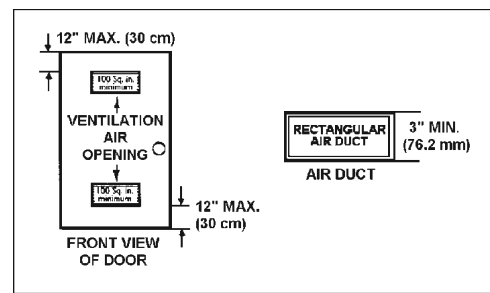
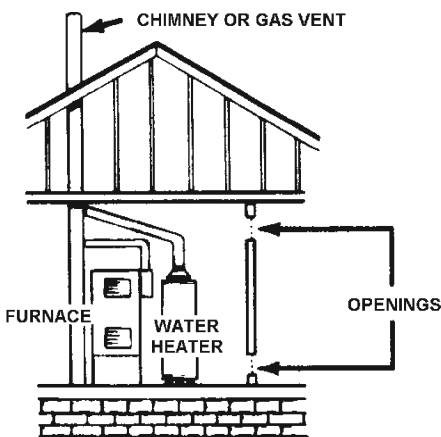

FIGURE 9.
FIGURE 10.
A gas water heater cannot operate properly without the correct amount of air for combustion. See Figure 9. Do not install in a confined area such as a closet, unless you provide air as shown in the *Locating The New Water Heater* section. Never obstruct the flow of ventilation air. If you have any doubts or questions at all, call your gas supplier. Failure to provide the proper amount of combustion air can result in a fire or explosion and cause death, serious bodily injury, or property damage.
(See Figure 9 on page 11 and Figure 10 below)
B. ALL AIR FROM OUTDOORS: (See Figures 9, 11, 12, 13 and 13A)